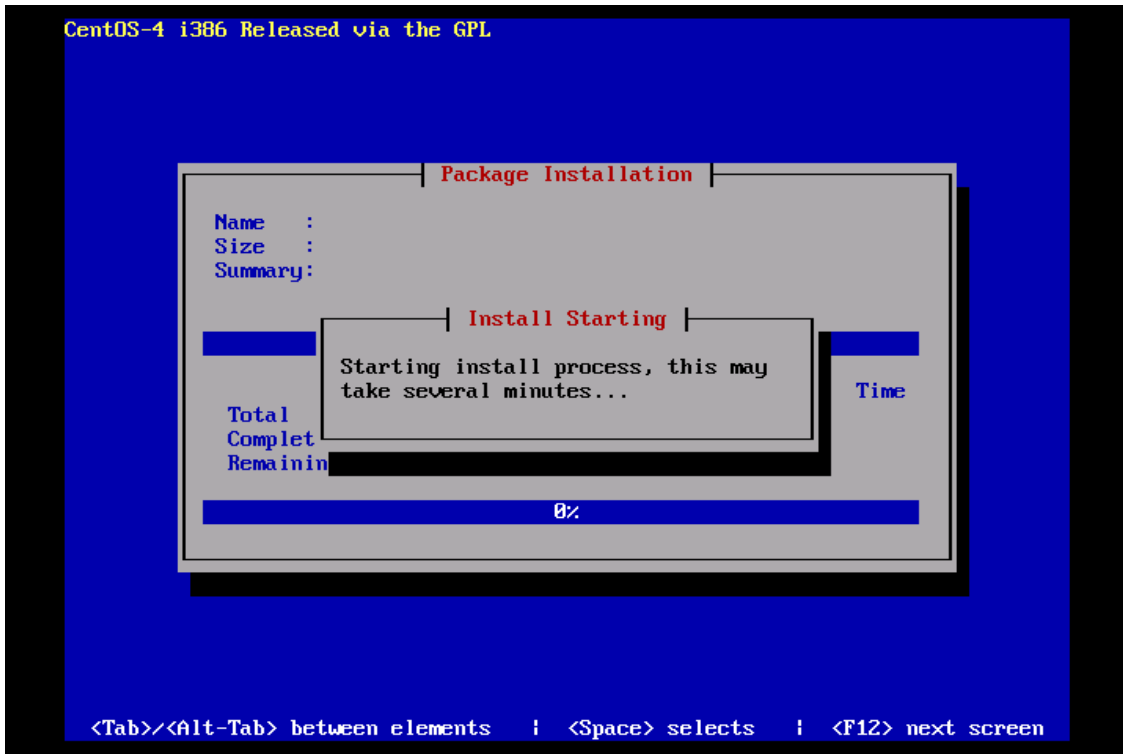

Figure 6: Example package installation screen
- Once the screen shown in Figure 6 appears, it may take several minutes before anything change. However, after a few minutes, you will see a screen similar to that below, showing the status of the package installation step. For each package, there will be a status bar at the top indicating how much of the package has been installed, with a cumulative status bar at the bottom indicating how many packages remain. In the middle, you will see text statistics indicating the total number of packages, the number of packages installed, the number remaining, and current and projected time estimates: